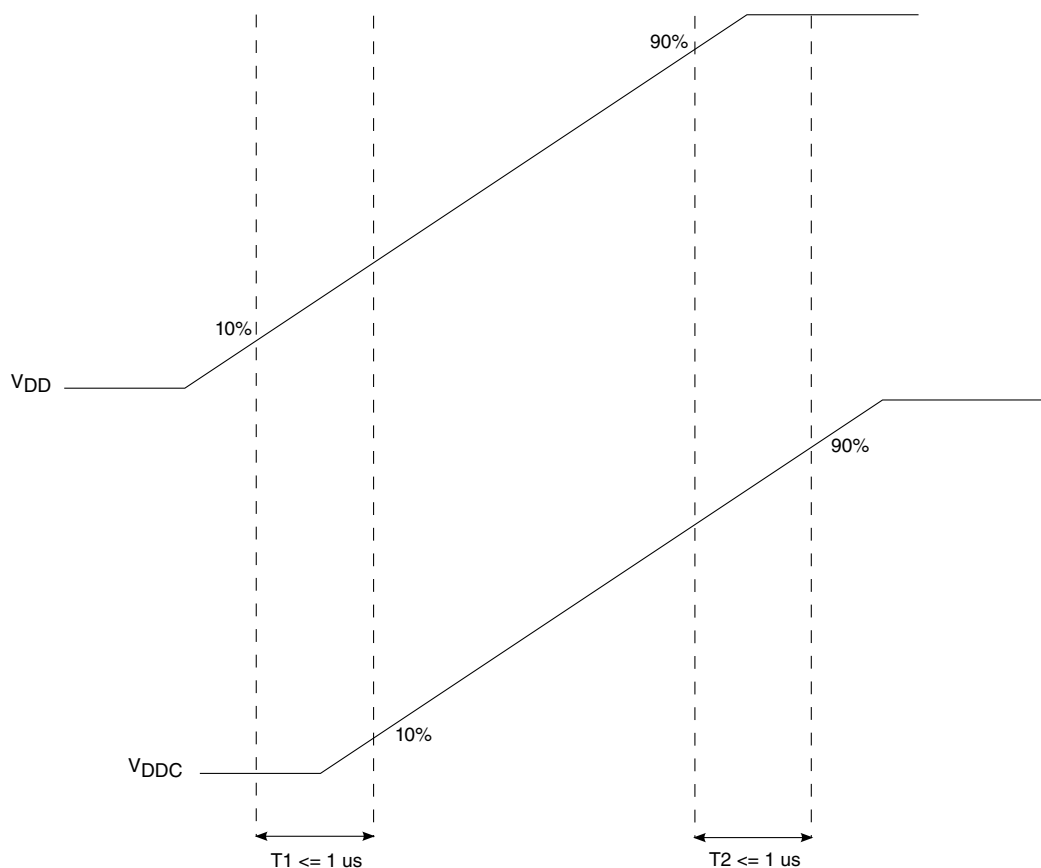

Figure 8. V_{DDC} and V_{DD} ramp-up diagram
2. When deep sleep mode is used, V _D DC should ramp up before V _{DD} . Alternatively, V _{DD} may ramp up together with V _D DC provided that the relative timing between V _D DC and V _{DD} ramp up conforms to Figure 8 .